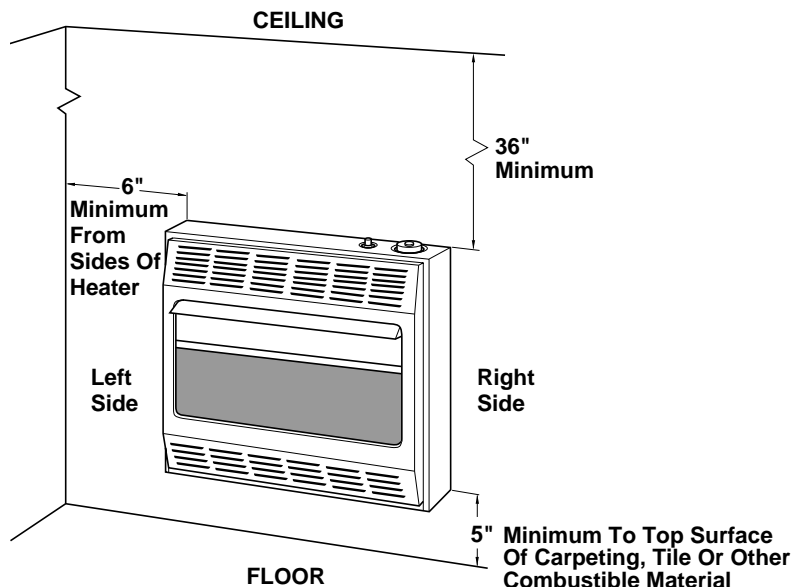

Figure 10 - Mounting Clearances As Viewed From Front of Heater
**WARNING:** Maintain the minimum clearances shown in Figure 10. If you can, provide greater clearances from floor, ceiling, and joining wall.